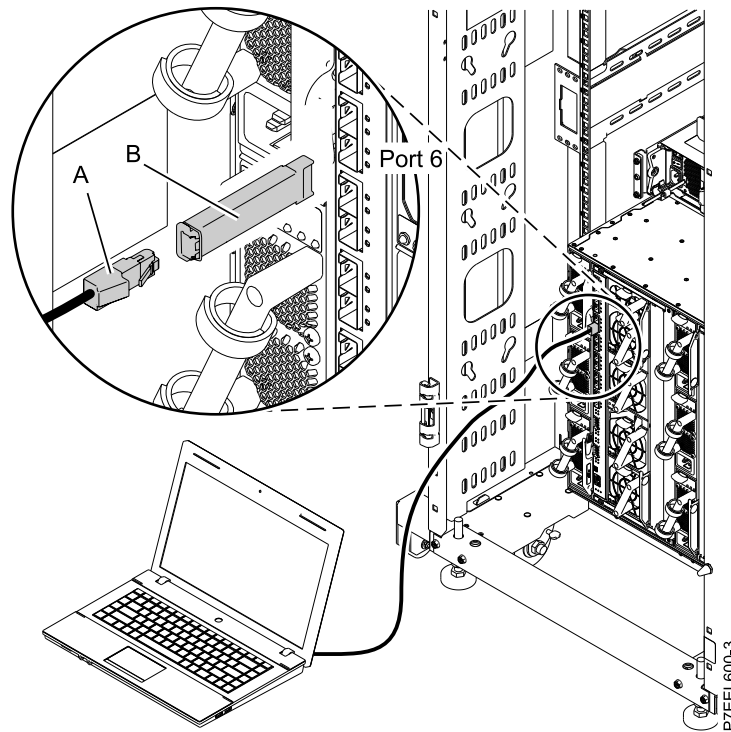

Figure 9. Connecting to port 6 on the chassis I/O module
1. Install the BNT SFP (RJ45) transceiver (**B** in Figure 9 “Connecting to port 6 on the chassis I/O module” on page 20). This SFP transceiver is included in the ship group. Install the transceiver in I/O module slot 1, port 6 on the chassis.
2. Connect a device that has browser access and an Ethernet port to the transceiver on I/O module slot 1, port 6 (**A** in Figure 9 “Connecting to port 6 on the chassis I/O module” on page 20).